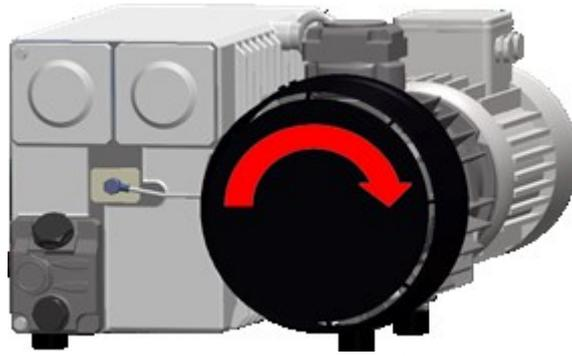

Figure 6: Direction of Rotation of the Vacuum Pump
5. Check the correct direction of rotation of the three-phase model pump. See *Figure 6: Direction of Rotation of the Vacuum Pump* on page 17.